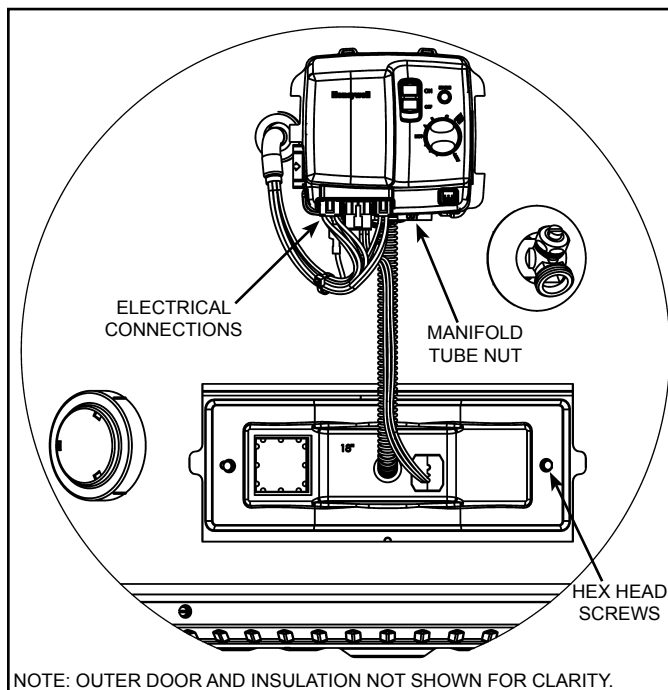

Figure 15
5. Unplug all the electrical connections from the bottom of the gas control valve/thermostat (see Figure 15).
6. Using a 3/4" open end wrench remove the manifold tube from the gas control valve/thermostat (turning counter-clockwise for natural gas, clockwise for L.P.). Grasp the manifold tube and push down slightly to free the manifold tube from the gas control valve/thermostat (see Figure 15).
8. Use a 1/4" nutdriver or 1/4" socket & ratchet to loosen the 2 hex head screws on the inner door so the inner door/manifold/burner assembly can be removed (see Figure 15).
2. After confirming no materials of any type are between door gasket and combustion chamber shield, align the screws on the inner door with the screw holes on the combustion chamber and tighten with 1/4" nutdriver or 1/4" socket & ratchet (see Figure 15). After tightening the inner door screws, visually inspect area around door gasket and skirt for spaces or gaps. The door gasket **MUST** be sealed completely in order for the water heater to perform properly. **DO NOT OPERATE THE WATER HEATER IF THE DOOR GASKET DOES NOT CREATE A SEAL BETWEEN MANIFOLD DOOR AND COMBUSTION CHAMBER.**
3. Reconnect the manifold tube to the gas control valve/ thermostat (**Note:** Do Not apply any thread sealant at this connection). To prevent any cross threading the manifold tube should be started by hand (turn clockwise for natural gas, counter-clockwise for L.P.). Upon tightening with the fingers and confirming it has not been cross threaded, tighten nut with a 3/4" open end wrench (see Figure 15).
2. After confirming no materials of any type are between door gasket and combustion chamber shield, align the screws on the inner door with the screw holes on the combustion chamber and tighten with 1/4" nutdriver or 1/4" socket & ratchet (see Figure 15). After tightening the inner door screws, visually inspect area around door gasket and skirt for spaces or gaps. The door gasket MUST be sealed completely in order for the water heater to perform properly.
3. Reconnect the manifold tube to the gas control valve/thermostat (**Note:** Do Not apply any thread sealant at this connection). To prevent any cross threading the manifold tube should be started by hand (turn clockwise for natural gas, counter-clockwise for L.P.). Upon tightening with the fingers and confirming it has not been cross threaded, tighten nut with an 3/4" open end wrench (see Figure 15).